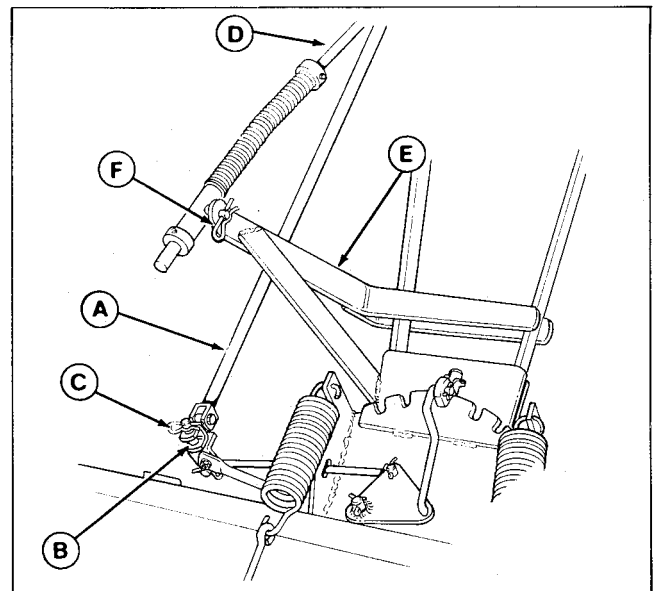

**Figure 6. Push Bar Installation
3. Raise rear of push bar so its arms fit between lugs of hitch (A, figure 6) at rear of tractor axle. Use two clevis pins (B) and spring clips (C) to secure push bar to hitch.